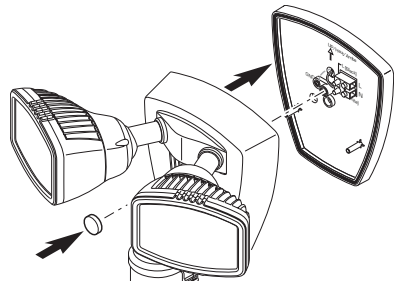

Figure 5
2. Verify the rubber gasket is properly seated around the edge of the 1-2-Easy Connect™ (see Figure 5).
4. Tighten the mounting bolt securely being careful not to overtighten (see Figure 5).
5. Push the plastic plug firmly into the mounting bolt hole on the light fixture (see Figure 5).